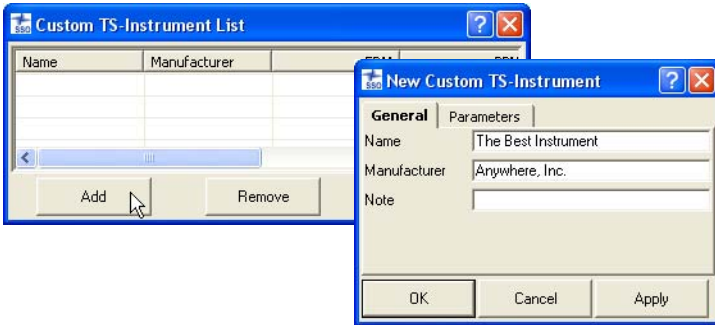

Figure 5-86. New Custom TS Instrument
- Click **Add** (Figure 5-86). To remove an instrument, click on the TS instrument's row and click **Remove**.
- On the *General* tab, edit the *Name*, *Manufacturer*, and *Note* fields (Figure 5-86). Then click **Apply** to save the information.